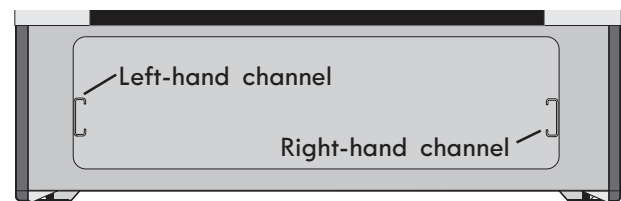

Figure 36: Channel alignment
2. Carefully line up both sides of the warmer drawer glide rails to the outer compartment glide channels located inside the empty warmer drawer compartment (See Figure 36).